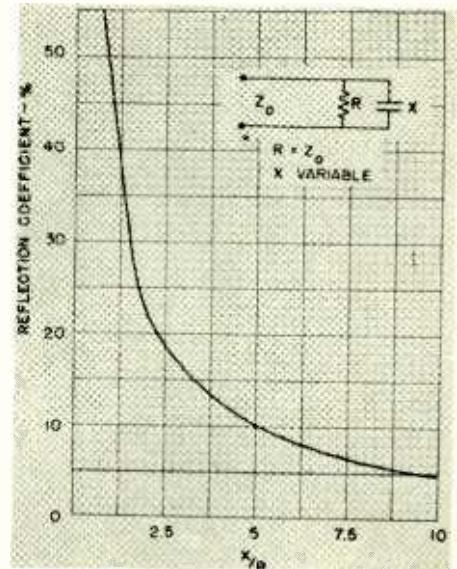

Fig. 17: Graph of reflection coefficients of shunt reactance across generator output
The reflection coefficient versus frequency for a 300-ohm line terminated by the noise generator is plotted (solid lines) in Fig. 16 for positions "Channel 4" and "Channels 9-10" of the selector switch. Fig. 17 is a plot of the calculated reflection coefficient versus the ratio (X)/(R) of the shunt reactance to load resistance which terminates the transmission line. The resistance R is constant and is equal to the characteristic impedance of the line, Z_0 . With the aid of Fig. 17 the shunt reactance across the generator output, at any frequency, can
be determined from the reflection coefficient. As an example, in Fig. 16a, the minimum reflection is 2% at 69 MC. However, at 88 MC the reflection coefficient is 21%. From Fig. 17, a reflection coefficient of 21% corresponds to $X/R = 2$, or for a 300-ohm line $X = 600$ ohms. This method can also be used to check the plate-to-filament capacity of the diode, as well as other circuit capacities.